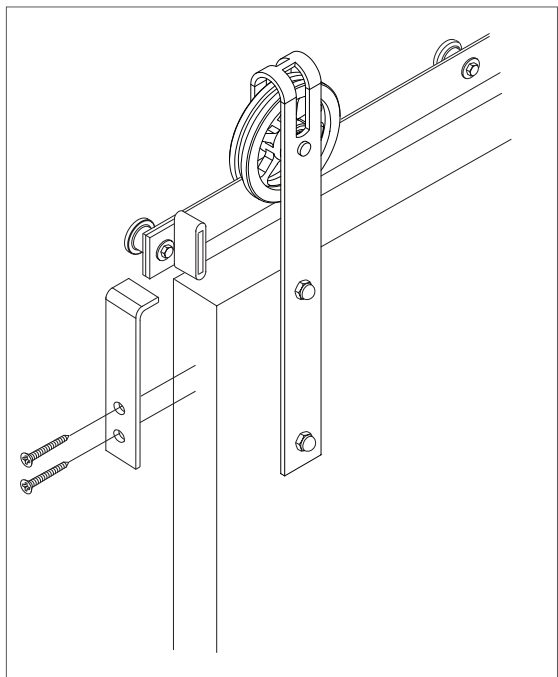

Figure 9
18. Install the bracket to the door edge with 2 phillips screws (provided) using a drill with a phillips bit. (Figure 9).